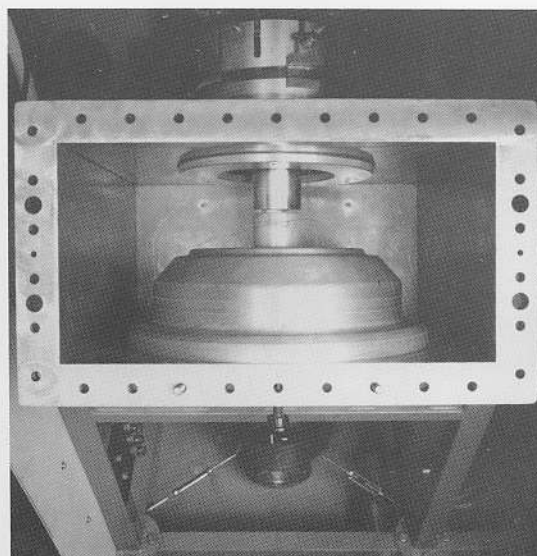

Fig. 34. View Inside the Transition
- (g) Look inside the transition (Fig. 34) and make sure that the two inner conductors are aligned.